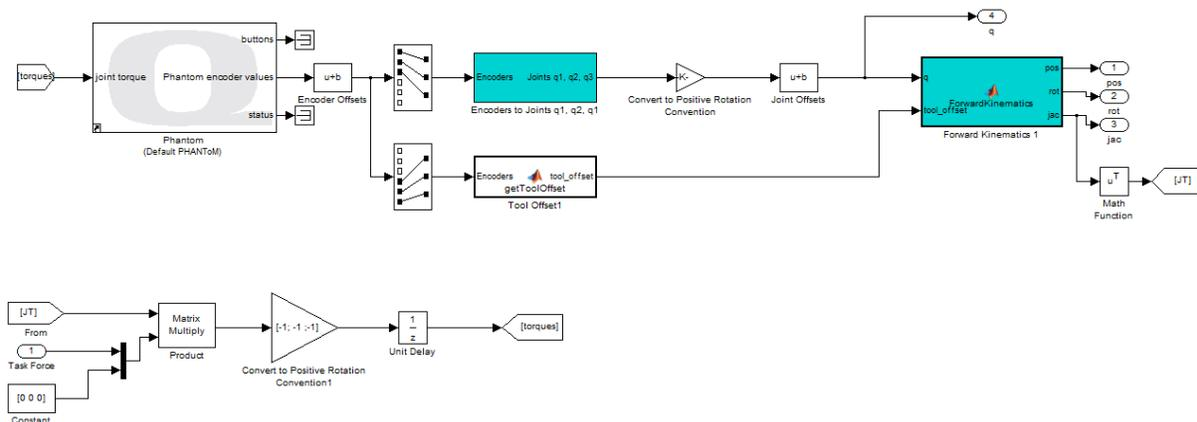

Figure 9.2: Complete force rendering model
8. Connect the joint torque port on the **Phantom** block to the output of the **Unit Delay** block. Your model should resemble Figure 9.2.